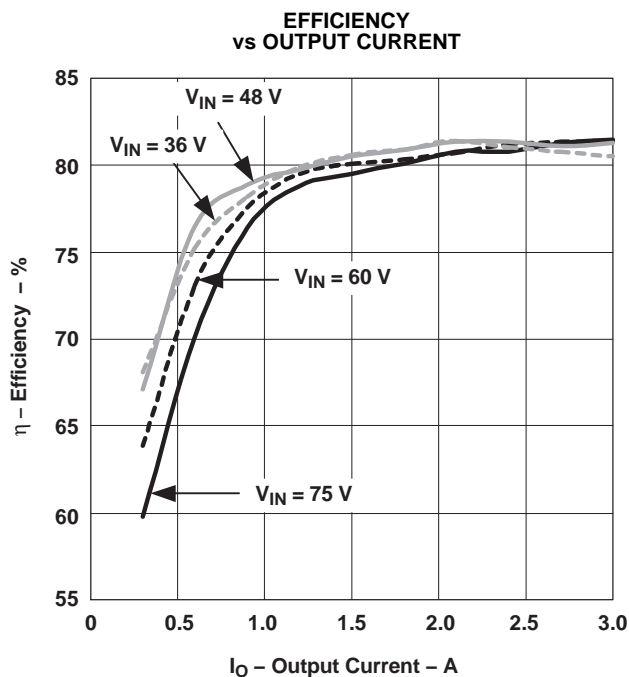
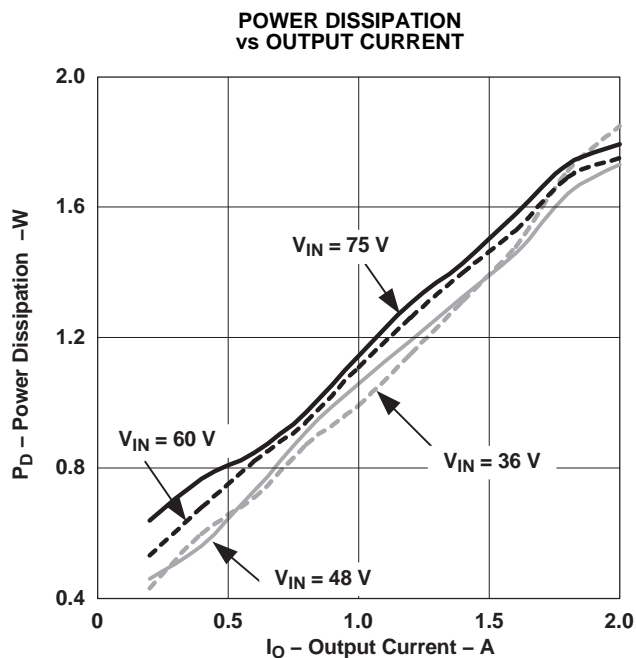
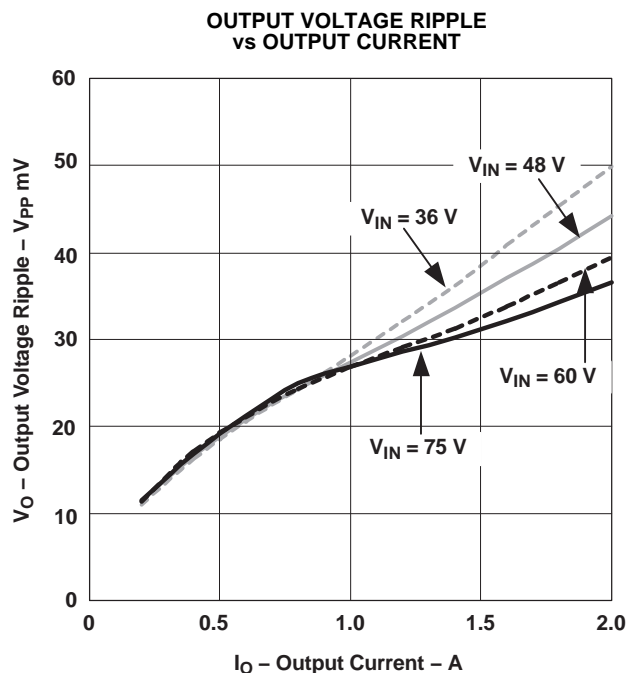

Figure 5.
Figure 6.
Figure 7.
- (3) All data listed in Figure 5, Figure 7, and Figure 6 have been developed from actual products tested at 25°C. This data is considered typical data for the dc-dc converter.